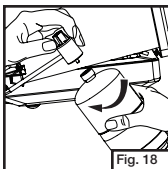

Fig. 18
- Remove propane cylinder from regulator and replace protective cap on cylinder. (Fig. 18)